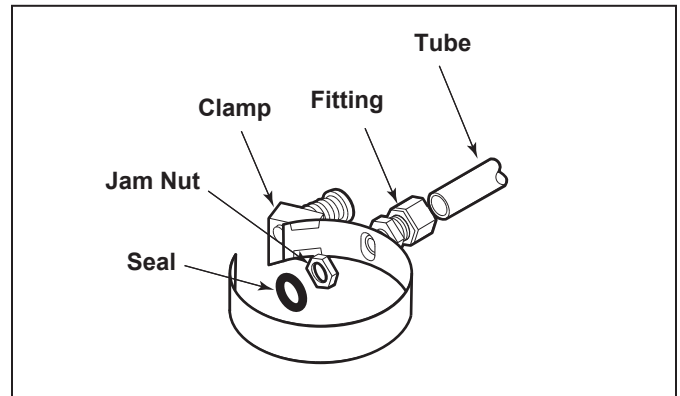

Figure 7. Saddle Clamps
1. If using a saddle clamp, drill a 7/16" hole in the pipe. See Figure 7.